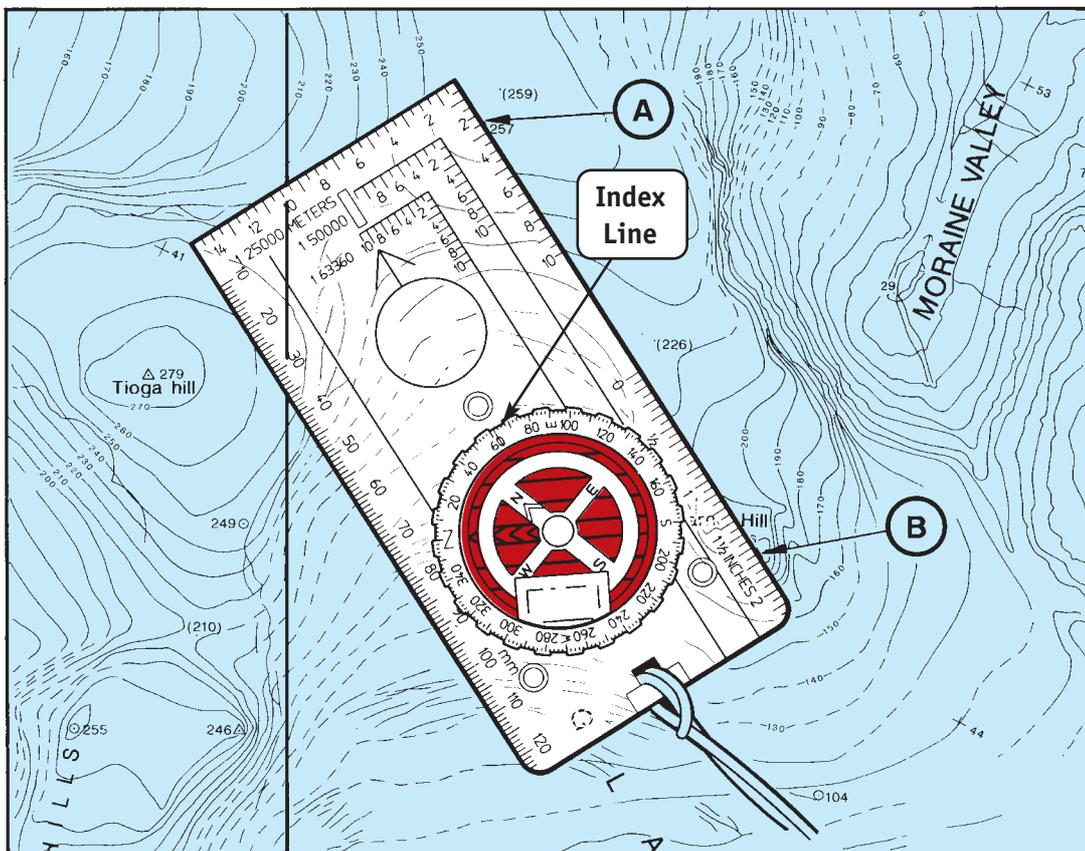

Figure 6.8a Taking a bearing, on map (misaligned)
- 4 Remove the compass from the map and read the bearing at the index line (see Figure 6.8a). Check that it corresponds to your earlier estimate.